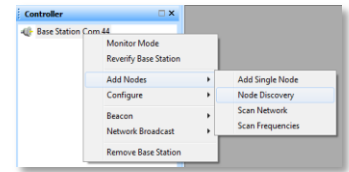

Figure 2: Base Station Com 44
2. The WSDA® will appear as Base Station Com X in the Controller frame; in our Figure 2 example, we see Base Station Com 44; this indicates that communication is established with the WSDA®.